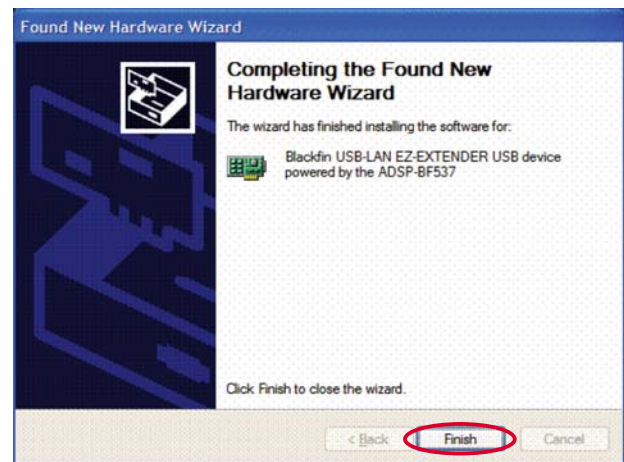

Figure 10. Install of Hardware Completed
7. When the driver has been found, the dialog box shown in Figure 10 appears. Click **Finish** to complete the hardware wizard.